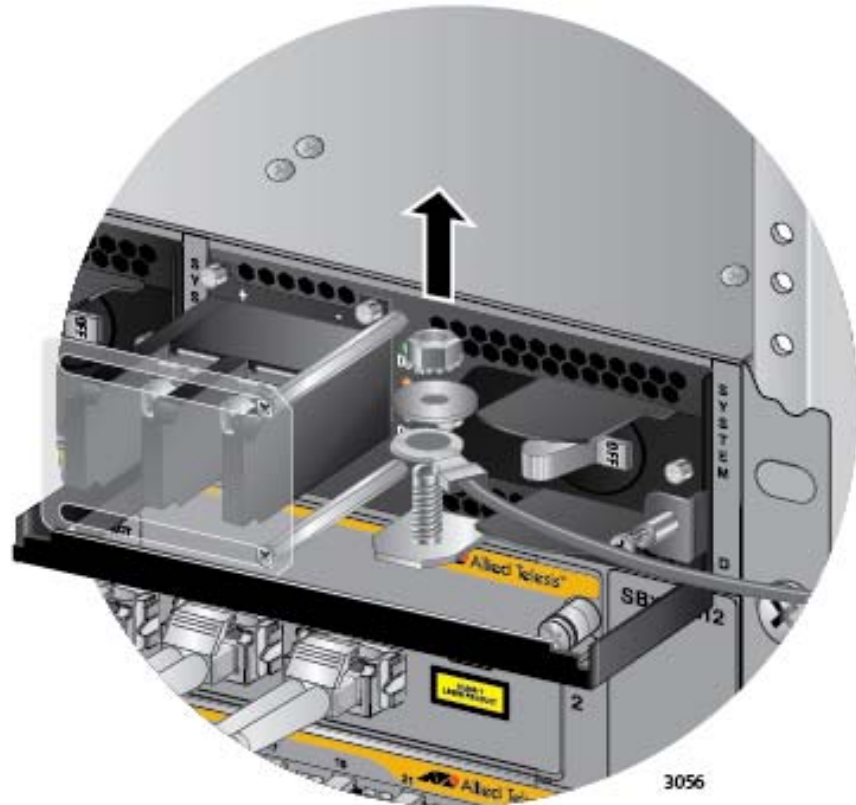

Figure 156. Removing the Grounding Wire
9. Use an 8 mm wrench to remove the grounding wire from the grounding post. Refer to Figure 156 on page 244.